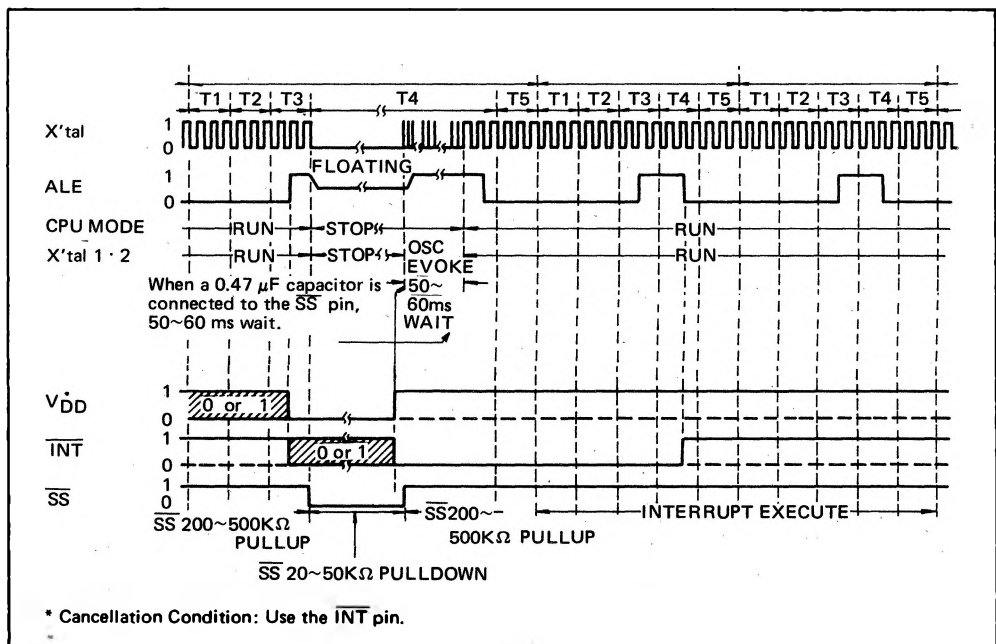
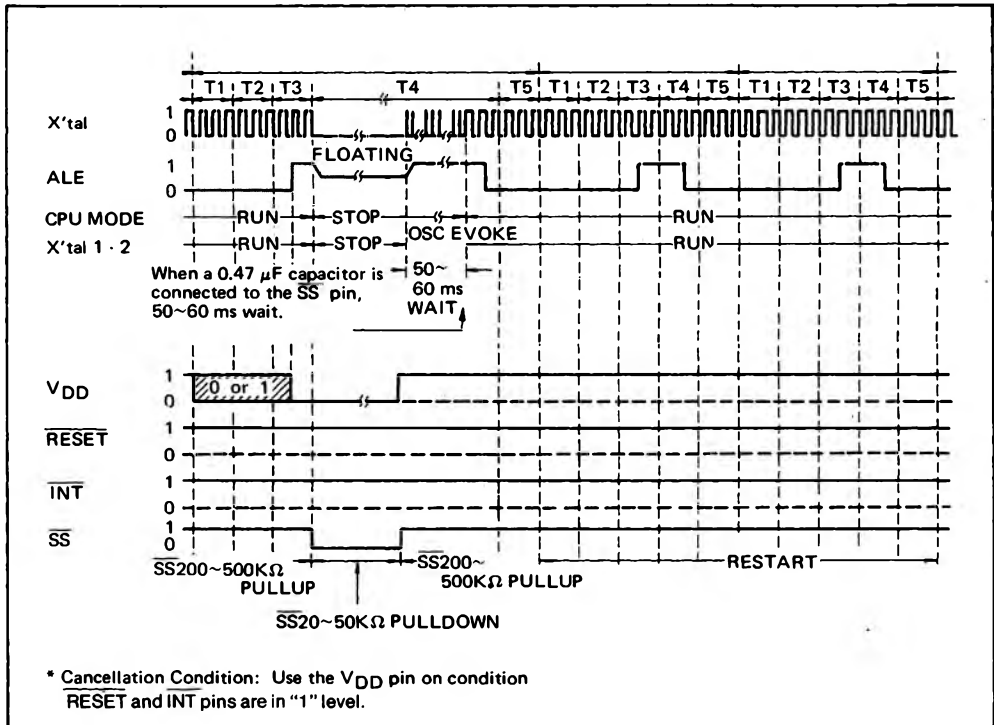

Fig. 4-6 Hardware Power-Down Mode Timing Chart
Fig. 4-7 Hardware Power-Down Mode Timing Chart
However, if the power-down mode is started during an interrupt processing routine, execution will be continued on the next instruction after the present instruction. The timing chart is outlined in Fig. 4-6.
- (3) Use of the INT pin during external interrupt disabled mode (i.e. following execution of DISI instruction or hardware reset)
- The clock generator is activated and the CPU started up when a "1" level is applied to the V_{DD} pin while a "0" level is applied to the INT pin. If this "0" level is maintained until at least 2 ALE output signals occur, execution is continued on the next instruction after the present instruction. The timing chart is outlined in Fig. 4-6.
- (4) Use of V_{DD} pin only
- The clock generator is activated and the CPU started up when a "1" level is applied to the V_{DD} pin while a "1" level is also applied to both the RESET and INT pins. In this case, execution is resumed from the stopped position. The timing chart is outlined in Fig. 4-7.